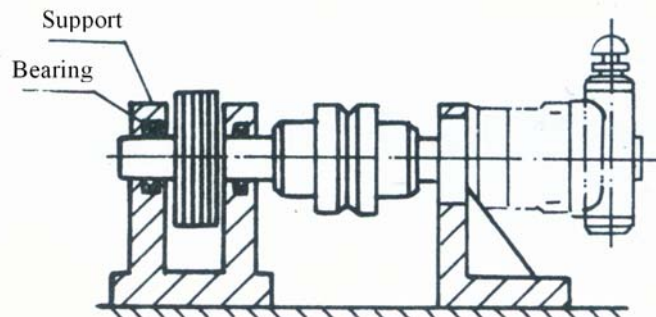

Figure 8 Installation of blet pulley or gear
5.1.3. The elastic coupling should be used in the connection between pump and prime motor. The pump drive shaft can not bear the bending moment, so the belt pulley or gear is prohibited from direct installation on the shaft to drive the pump. If it has to be installed, a support should be supplied (Figure 8). The installations of this support are the same as those given in.